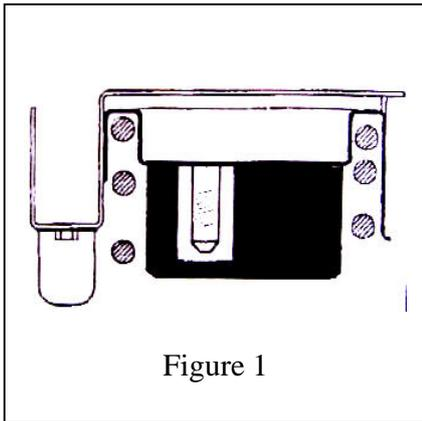

Figure 1
3. The larger spacer must be installed with the hole facing upwards as shown in **Figure 1** to protect the bellow from the protruding stud.